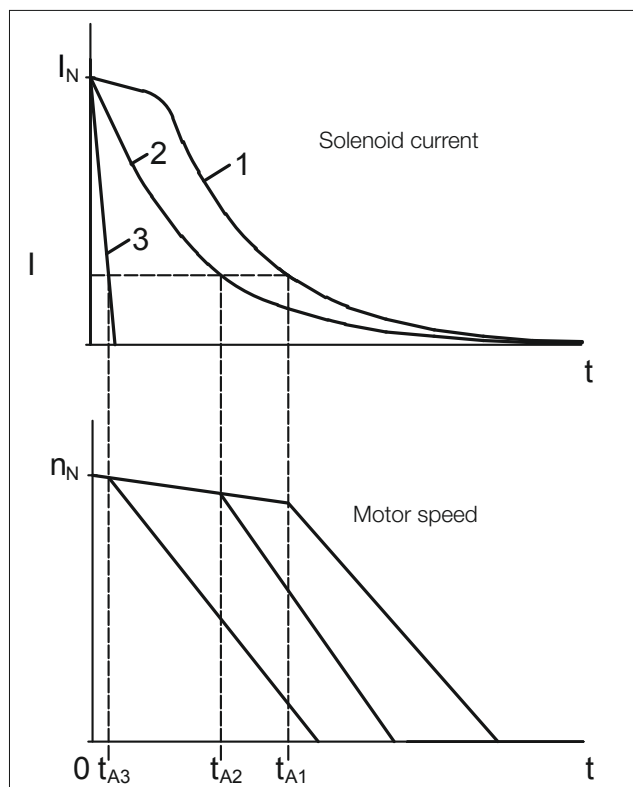

Figure 4: Idealised coil current and motor speed curves after switching off power on the AC side (1 and 2) or DC side (3)
- a) Rectifier powered from the motor terminal board (Figure 4, curve 1)
- b) Rectifier powered separately (Figure 4, curve 2)
Interrupting the DC circuit of the electromagnet coil (Figure 4, curve 3)